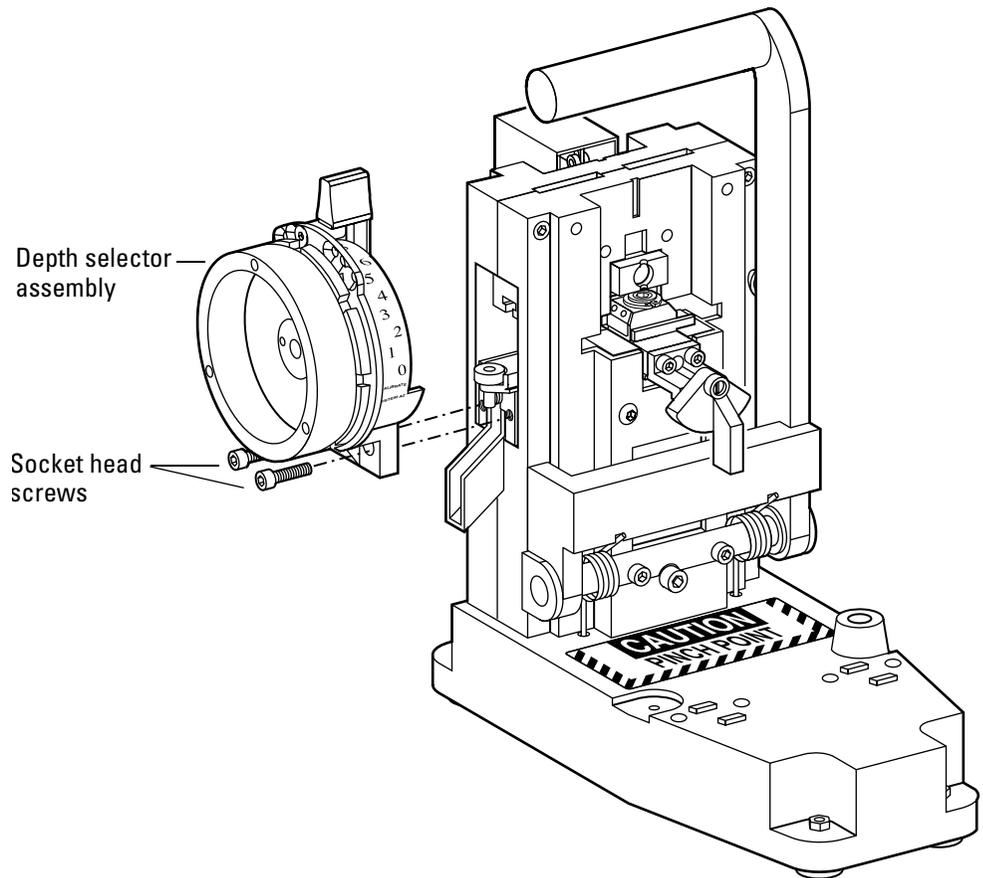

Figure 3.5 Removing the depth selector
1. Using a 5/32" Allen wrench, unscrew the two socket head machine screws that secure the depth selector to the side of the combinator. See Figure 3.5.